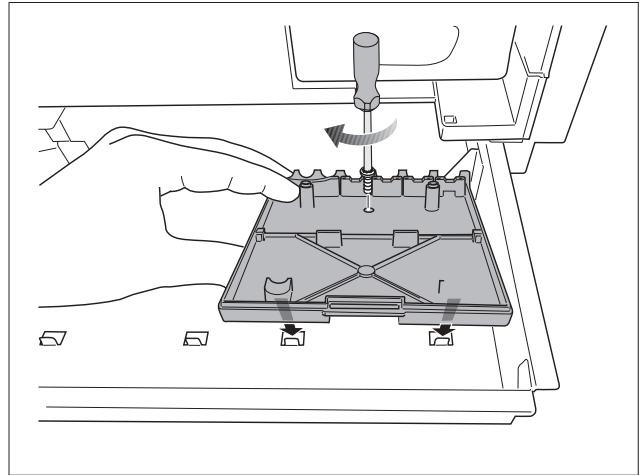

fig. 59 Installing the wall bracket
- Install the wall bracket (accessory with function module) in the relevant slots in the draw (fig. 59).